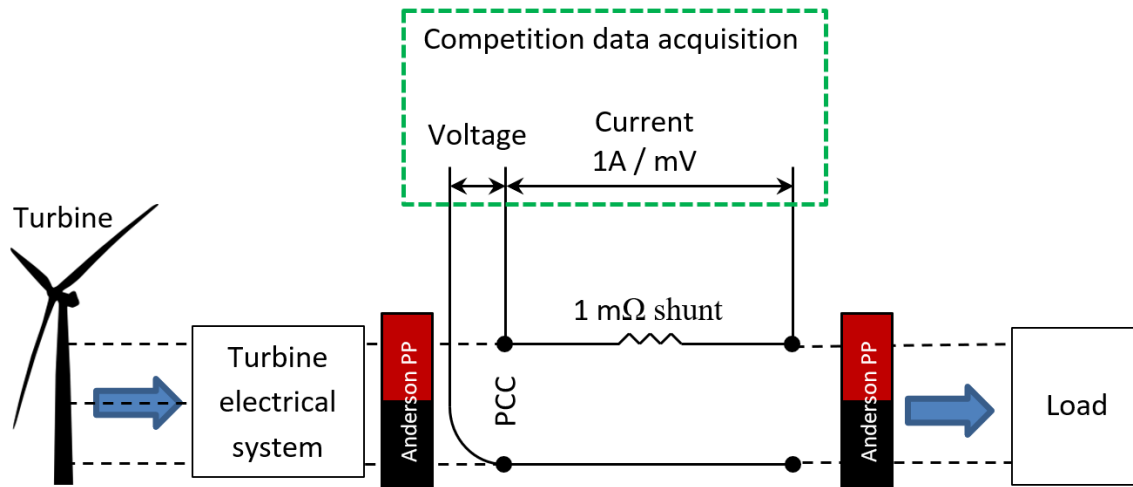

Figure 11. Load, turbine, storage element, and point of common coupling arrangement
Figure 11 illustrates the electrical configuration of the prototype turbine, competition data acquisition system, and PCC, which is the point of electrical measurement for the competition.
- The turbine electronics must be in separate enclosure(s) from the load to clearly differentiate load and control during inspection by judges, as shown in Figure 11. The turbine nacelle may also contain turbine electronics, if desired.